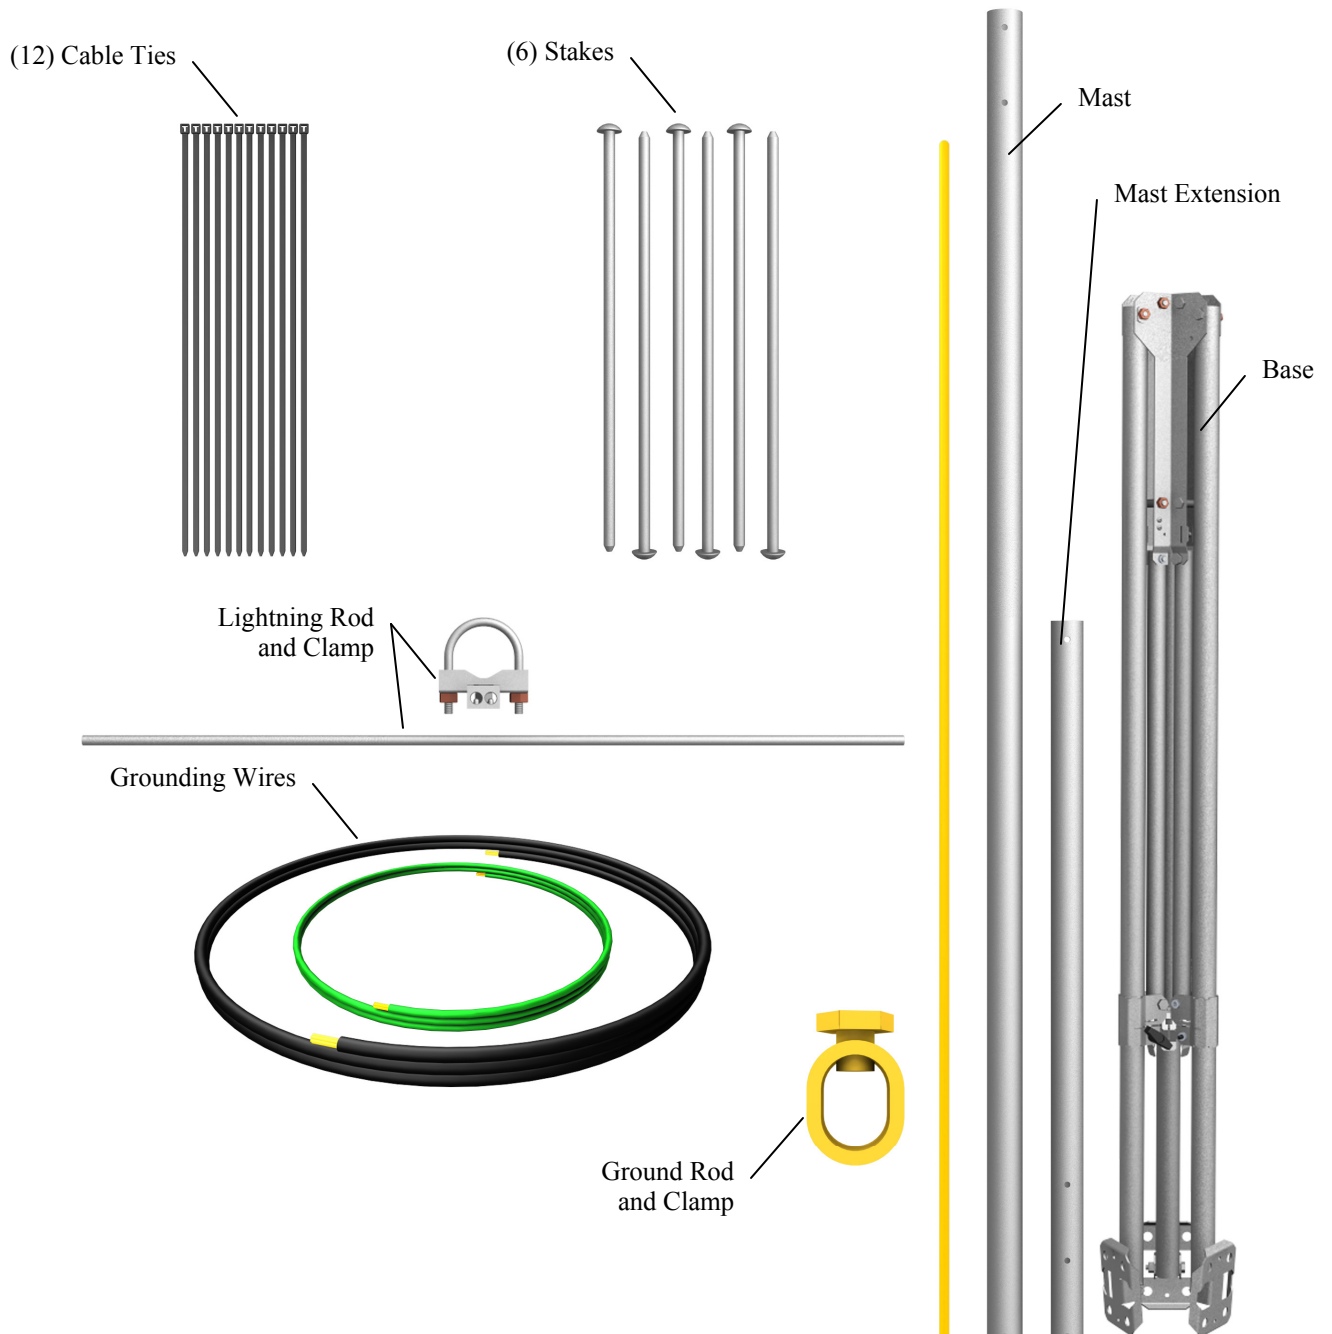

FIGURE 1.4-1. Tripod Components
Figure 1.4-1 shows the tripod components. The tripod base is packaged with the mast, ground rod, lightning rod and (6) stakes. The ground rod clamp, lightning rod, cable ties, and grounding wires are enclosed in a bag. The optional guy kit is packaged separately.